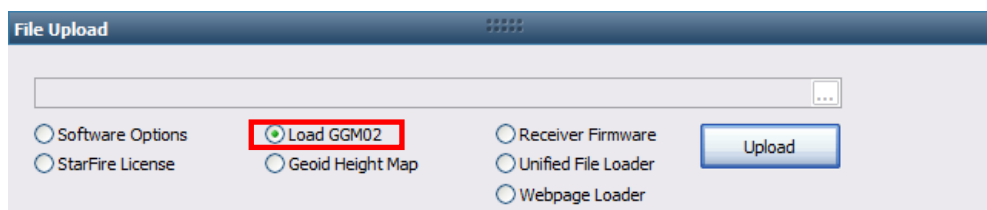

Figure 78: File Upload – Load GGM02
2. Select *Load GGM02* in the File Upload window (see Figure 78).